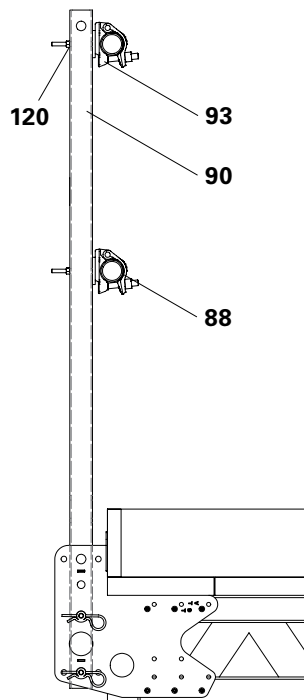

Fig. B5.06
2. Position Scaffold Tube Steel (**88**) and secure. (Fig. B5.06)